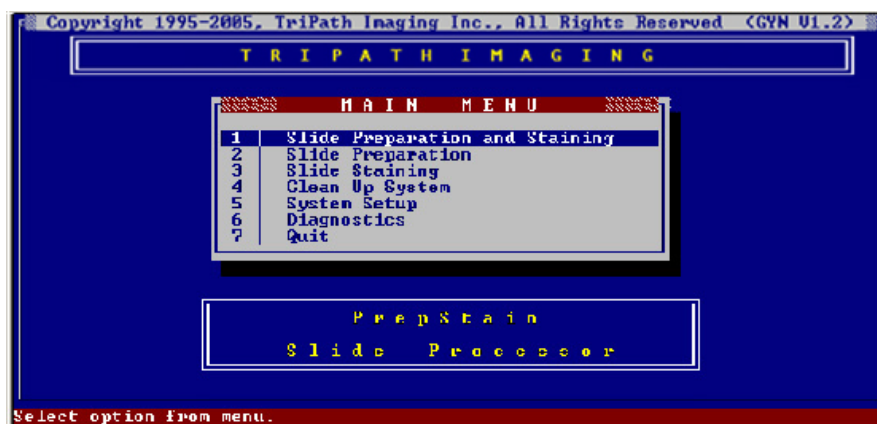

Figure B-1 Main Menu screen
1. Select **System Setup** from the GYN Main Menu as shown in *Figure B-1*.